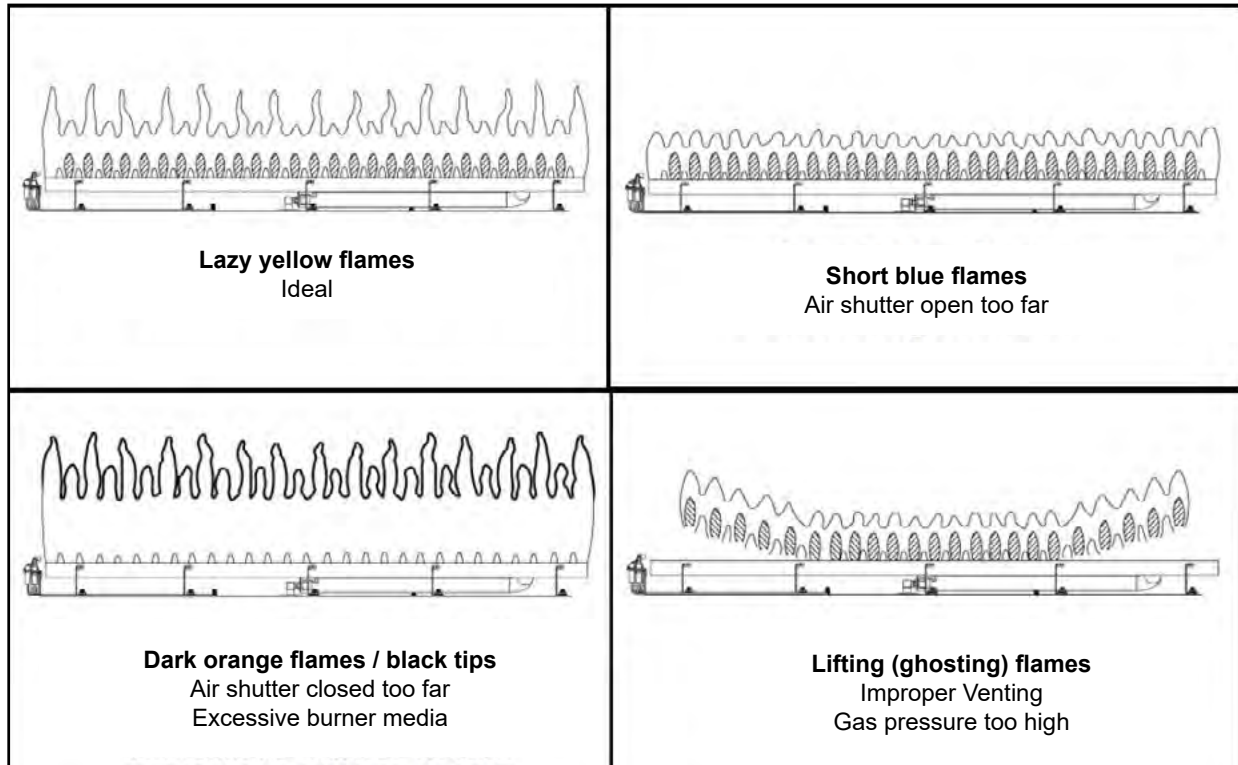
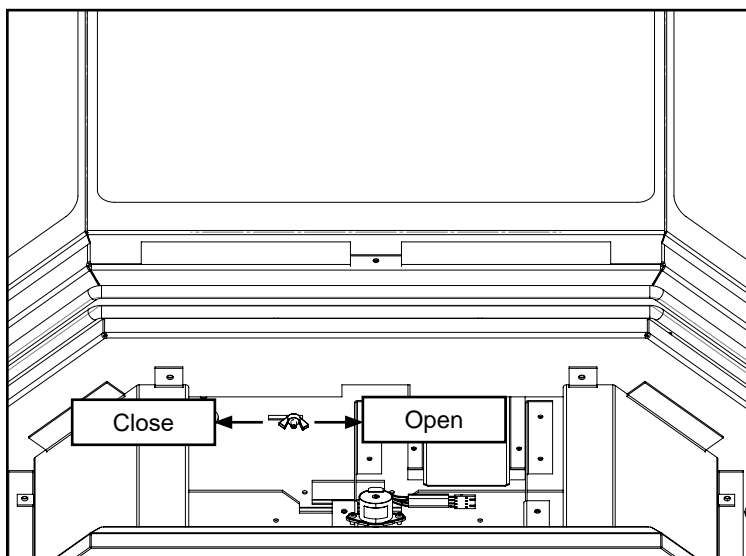

Figure 18.5.01:
Figure 18.5.02: Air Shutter Adjustment Wingnut (as viewed from underneath the firebox).
- Inspect and ensure the lighting of the main burner occurs within 4 seconds of the main gas valve opening. Flames should match those shown in **Figure 18.5.01**
The 45-DVFE28LN-1 includes an air shutter located under the door of the fireplace which may be used to adjust the primary air to achieve the ideal flame as shown in **Figure 18.5.01**. To adjust, loosen the wing nut on the air shutter and adjust as shown in **Figure 18.5.02**. To open the air shutter and increase air flow to the burner, slide the air shutter to the left. To close the air shutter and decrease air flow to the burner, slide the air shutter to the right.